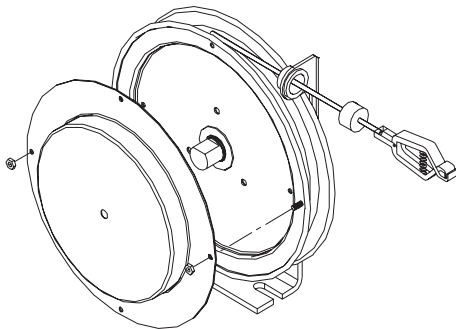

Fig 3.0
- Remove two nuts from spring cartridge. (See figure 3.0)